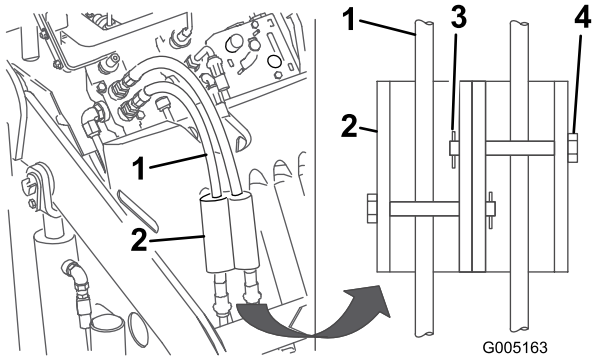

Figure 13
- Install the cylinder locks over the hydraulic hoses and secure them with the clevis pins and cotter pins (Figure 13).